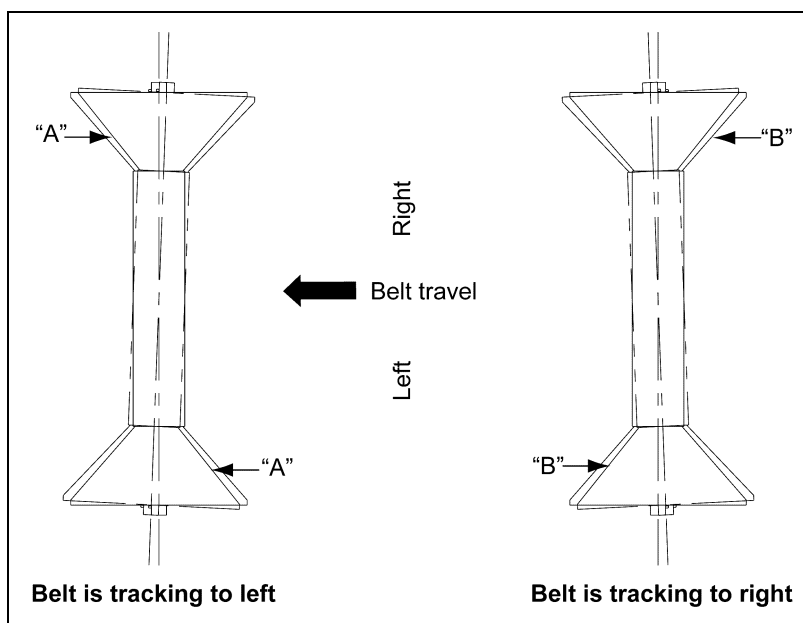
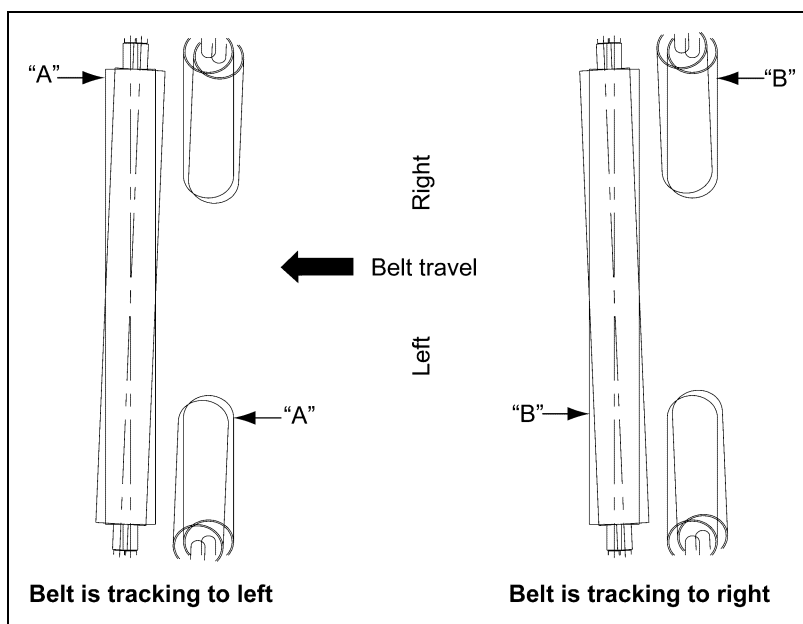

Figure 5D *Standarded Roller Flo Idler Adjustments*
Figure 5E *3i Roller Flo Idler Adjustments*
If the belt is tracking to one side in one location, adjust the idler at that section. Adjust the side of the idler that the belt is riding high on toward the direction of travel until the belt becomes center. (*See Figure 5D and Figure 5E.*) If the belt is rubbing the side of the conveyor on the return path, check to see if that section is squared and level with the two (2) sections before and after. If one or more portions of the belt run off at all points along the conveyor, the cause is more likely in the belt itself, in the joints of the belt, or in the loading of the belt *on Page 42* for belt loading corrections. If the belt runs off center at or near the splice then returns to center, the splice is not correct. Resplice the belt according to the direction stated in this manual. If the belt runs off center away from the splice and then returns to center, check that area of belt for cuts, burns, or other localized damage.